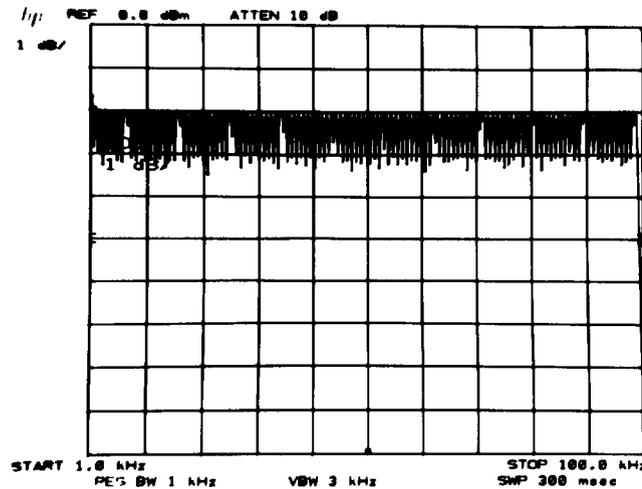

FIGURE 15. FREQUENCY RESPONSE MEASUREMENT (1 kHz TO 100 kHz)
11. Press TRACE A . Press MODULATION SWP on the function generator. When function generator completes one sweep, press TRACE A . Trace should appear as in Figure 15.